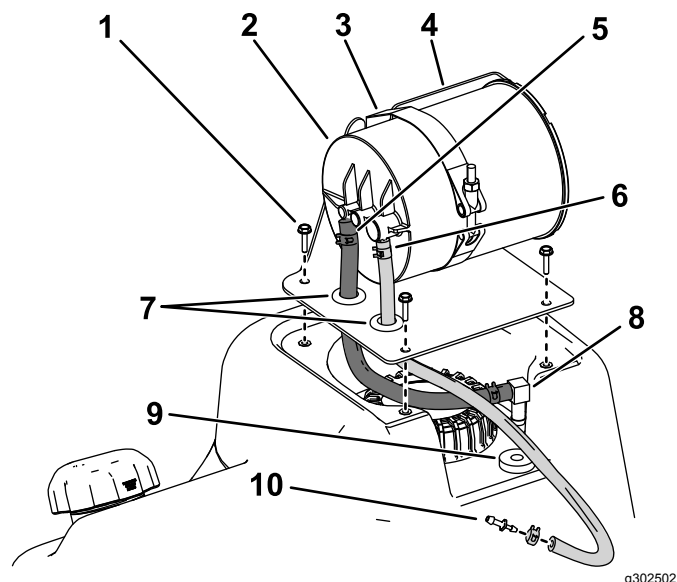

Figure 3
1. Assemble the carbon canister, canister clamp, and 2 grommets (9/16 inch) to the canister bracket (Figure 3)